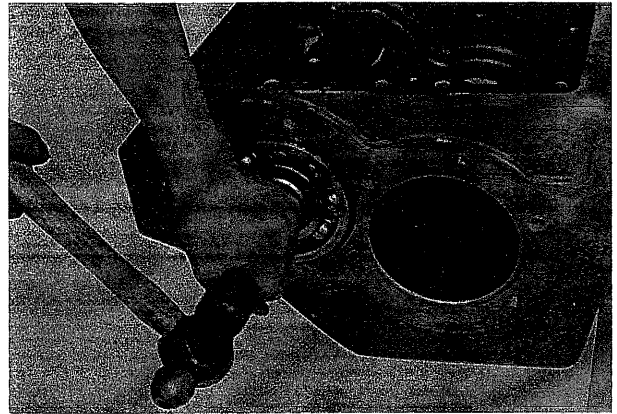

Fig. 49
- (8) Remove snap ring and drive input shaft toward hydraulic pump side until bearing on opposite side slips off case. Pull out bearing from hydraulic pump end of input shaft. Take out input shaft from transmission. (Fig. 49)